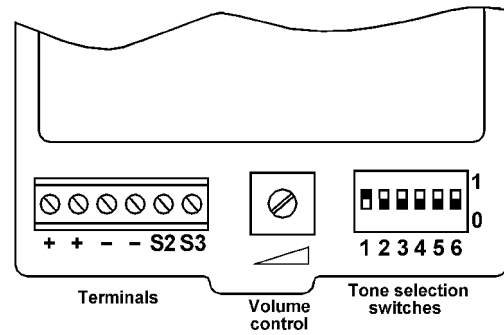

Fig 3 Location of field terminals and controls.
- Fit an appropriate 20mm cable gland or conduit entry into the tapped hole in the enclosure and connect the field wiring to the appropriate sounder terminals as shown in Fig 3. The power supply terminals + and – are duplicated so that sounders may be connected in parallel, or an end-of-line monitoring resistor may be fitted.
- Select the required output tone by positioning the six switches as shown in Table 1 and Fig 3.